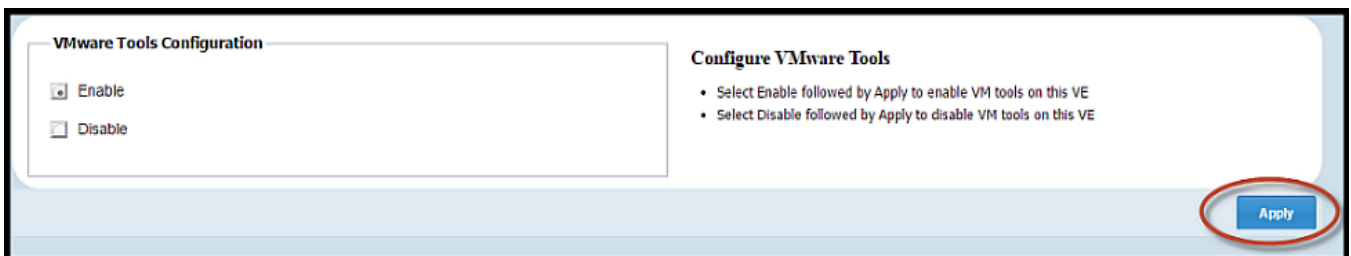

Figure 84 Enable/Disable VMware Tools
2. Select **Enable** or **Disable**, and then click **Apply**, as shown in Figure 84.